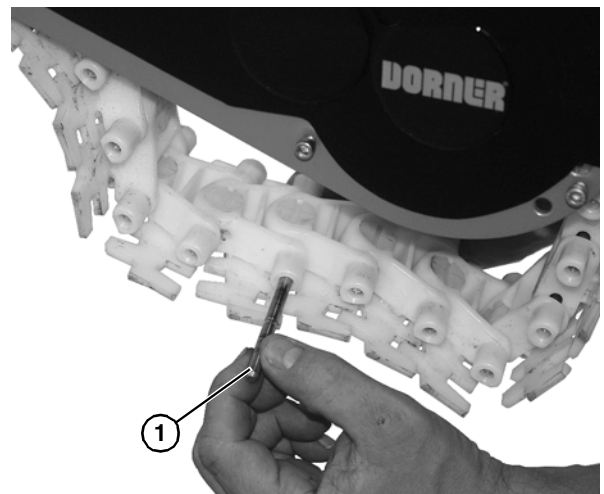

Figure 42
1. Use a punch and hammer or belt removal tool #203480 to push the belt rod (Figure 42, item 1) out by striking the rod end.